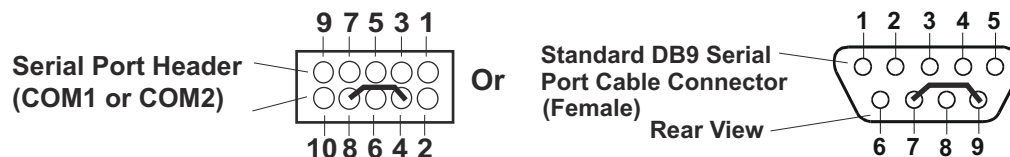

Figure 3-3. Hot Cable Jumper
To convert a standard serial cable to a Hot Cable, specific pins must be shorted together at the Serial port header or at the DB9 connector. Short together the RTS (4) and RI (8) pins on either serial port (J3 or J9) header. As an alternate, you can short the equivalent pins (pins 7 and 9) on the back of the respective DB9 port connector as shown in Figure 3-3.